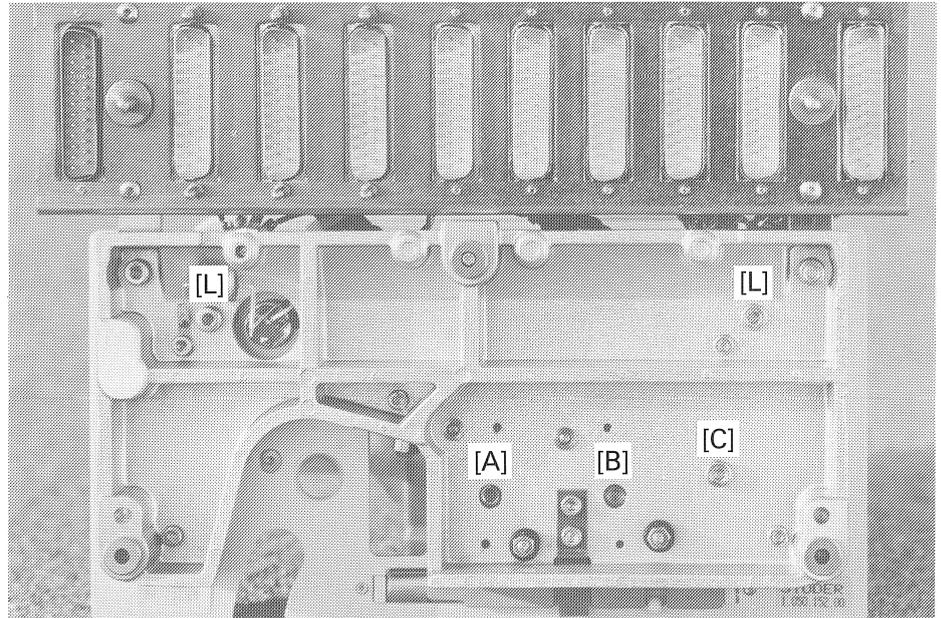

Fig. 28
- Remove the pinch roller, 1 screw, hexagon-socket-screw key 3 mm.
- Remove the cover behind the headblock, 4 screws, hexagon-socket-screw key 2.5 mm.
- Remove the headblock, 3 screws, hexagon-socket-screw key 3 mm.
- Remove the head cover, 2 screws, hexagon-socket-screw key 3 mm.
- Remove the rear cover profile (2 screws [L], hexagon-socket-screw key 3 mm), (see Fig. 28).
- Unfasten the hexagon-socket-head screw [A] of the reproduce head, [B] of the record head, or [C] of the erase head (hexagon-socket-screw key 3 mm).